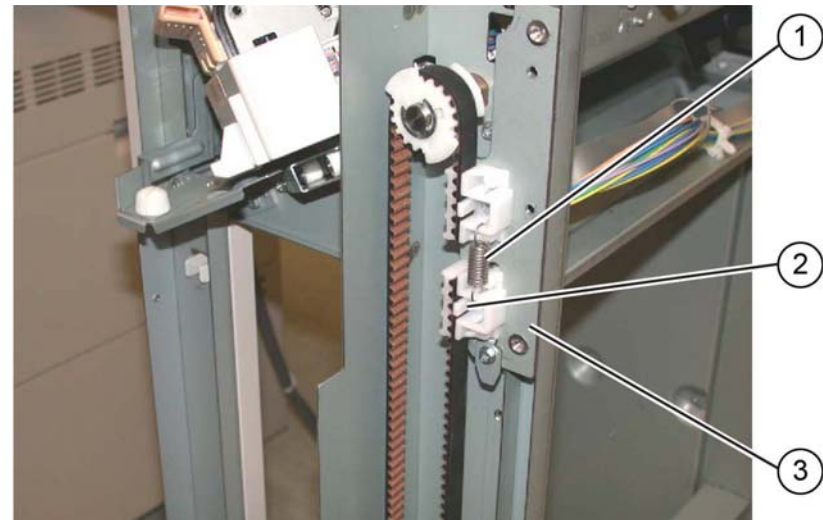

Figure 1 Carriage assembly removal
6. Removing the carriage assembly, Figure 1:
- a. Disconnect, then remove the spring (1).
- b. Use a flat bladed screwdriver to release the belt clamp latch (2).aside and